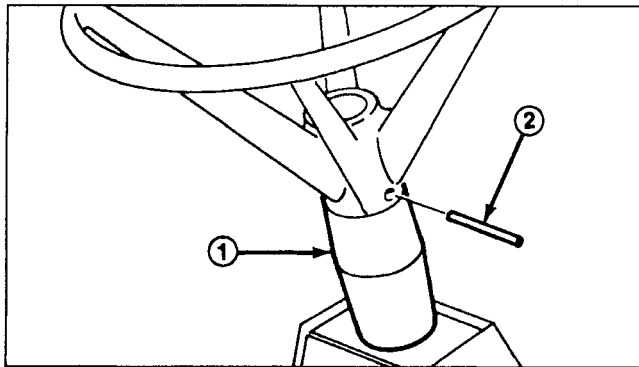

Figure 2
2. Slip steering wheel over shaft and line the steering wheel mount hole with the shaft mounting hole (Fig. 2). Toro logo should be readable from operator's position.
4. Drive the roll pin in until it is flush with the outside of the wheel (Fig. 2).